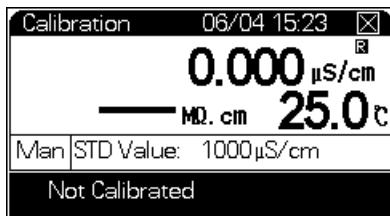

Figure 18 The Calibration screen
- 8 The Calibration screen appears. (see Figure 18).